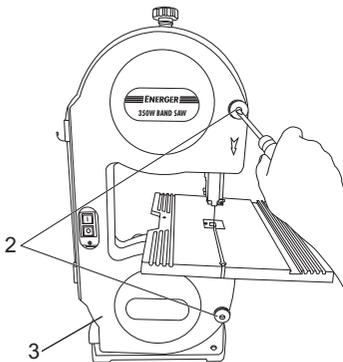

Fig. 30
- > Undo the fixing knobs (2) to open the left side cover (3). (Fig. 30)
- > Undo the fixing knobs (2) and open the left side cover (3). (see fig. 30)
- > Re-fix the blade guard (6) and close the left side cover (3). (see Fig. 30 & 31)